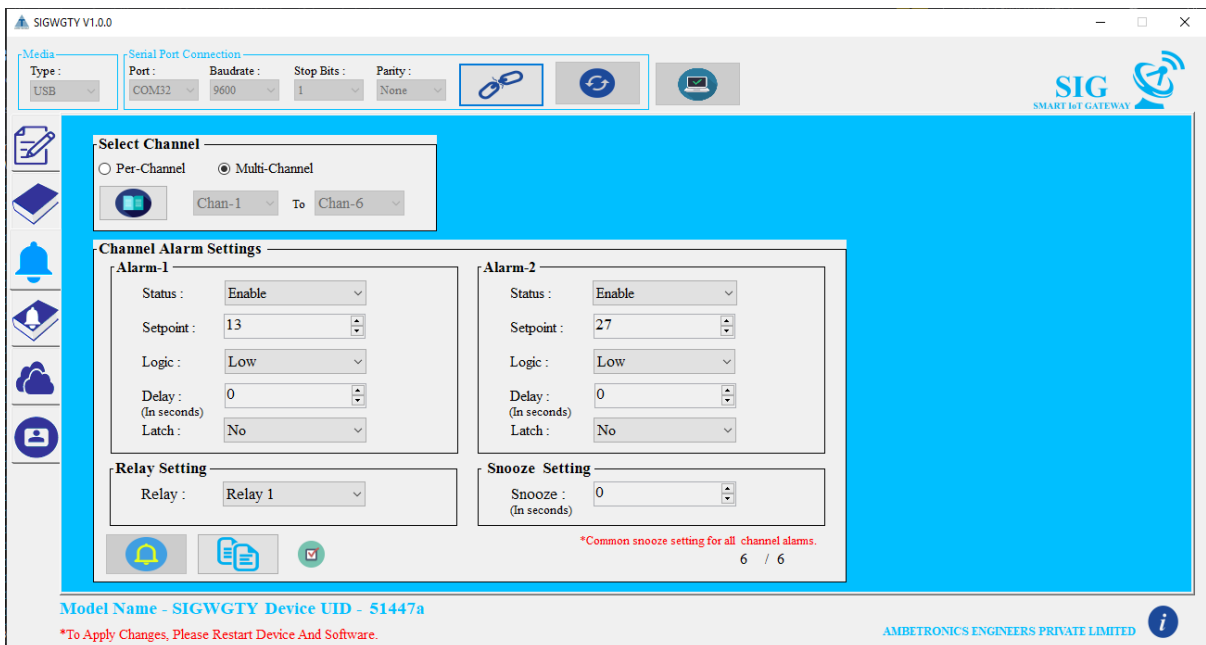

Figure 26
- After configuring alarm, settings click on  button. This button is only applicable for multiple channels alarm settings. If all configurations are done successfully then  Right Check will appear on window or if settings are not done properly, then  Wrong Check will appear on window. Shown in Figure 26.